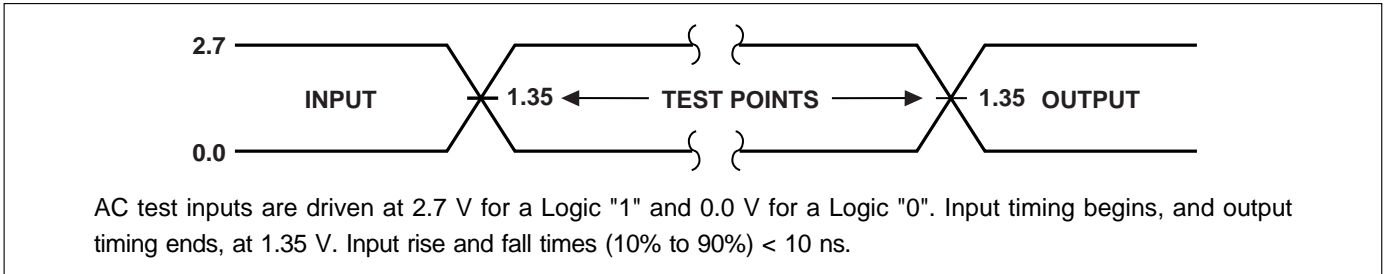
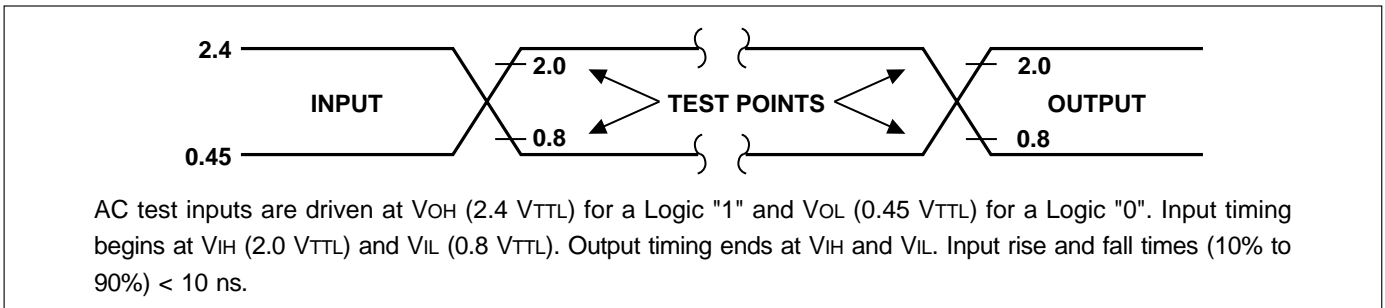

Fig. 7 Transient Input/Output Reference Waveform for V_{cc} = 2.7 to 3.6 V
Fig. 9 Transient Input/Output Reference Waveform for V_{cc} = 5.0±0.5 V (Standard Testing Configuration)
1. See AC Input/Output Reference Waveform (Fig. 7 through Fig. 9) for maximum allowable input slew rate.